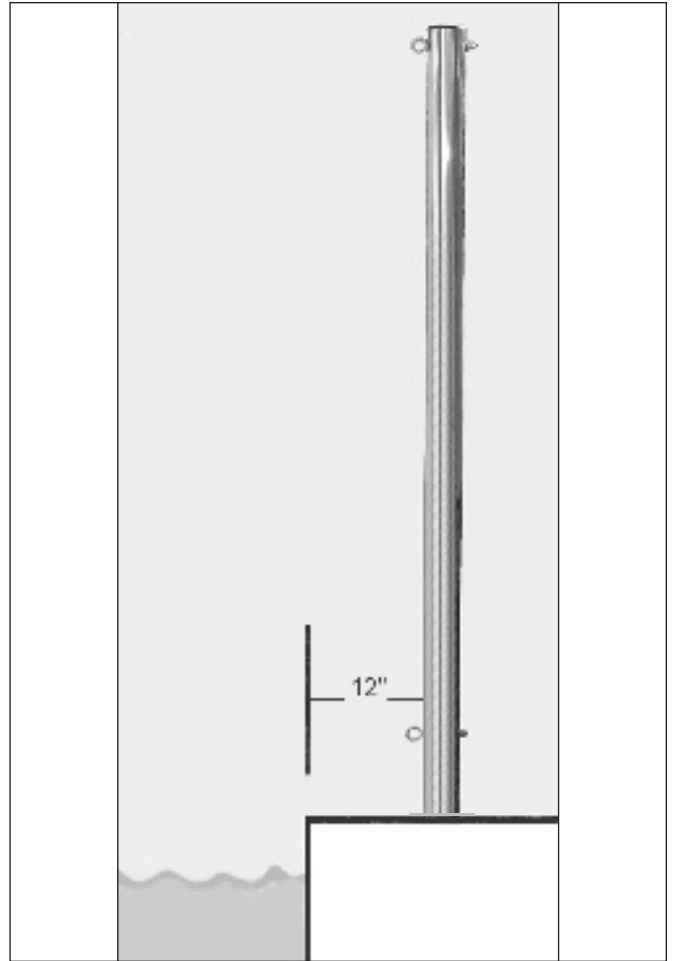
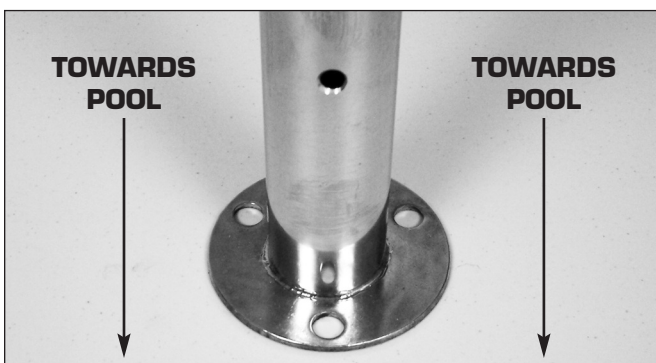

Figure 6
Figure 7
STEP ONE: Position the poles 12" from the edge on the pool (as shown in Fig. 6) on the shallow end of the pool. Orient the poles (as shown in Fig. 7) to ensure that the deck flange hole and pole eyebolt hole are facing the pool. Mark the three (3) flange hole locations for each pole.